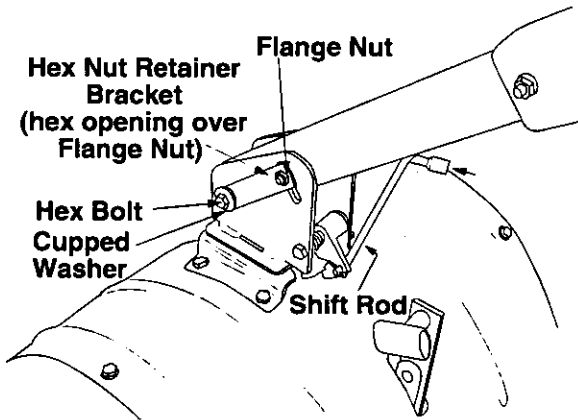

Figure 6
4. Place the hex opening of the hex retainer bracket over the hex flange nut. See Figure 6.